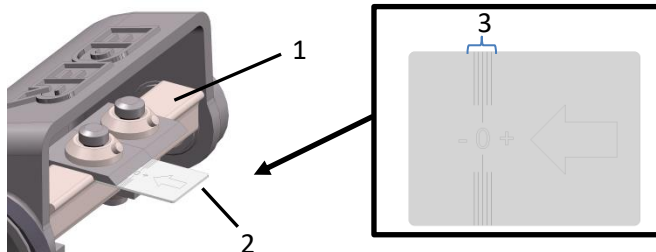

Fig. 5: Knife adjustment
- > Push the setting gauge (2 – Fig. 5) under the knife in the direction of the arrow up to the peeling cylinder (1 – Fig. 5).
Attention: The cutting edge of the knife must be within the marked area (3 – Fig.5).